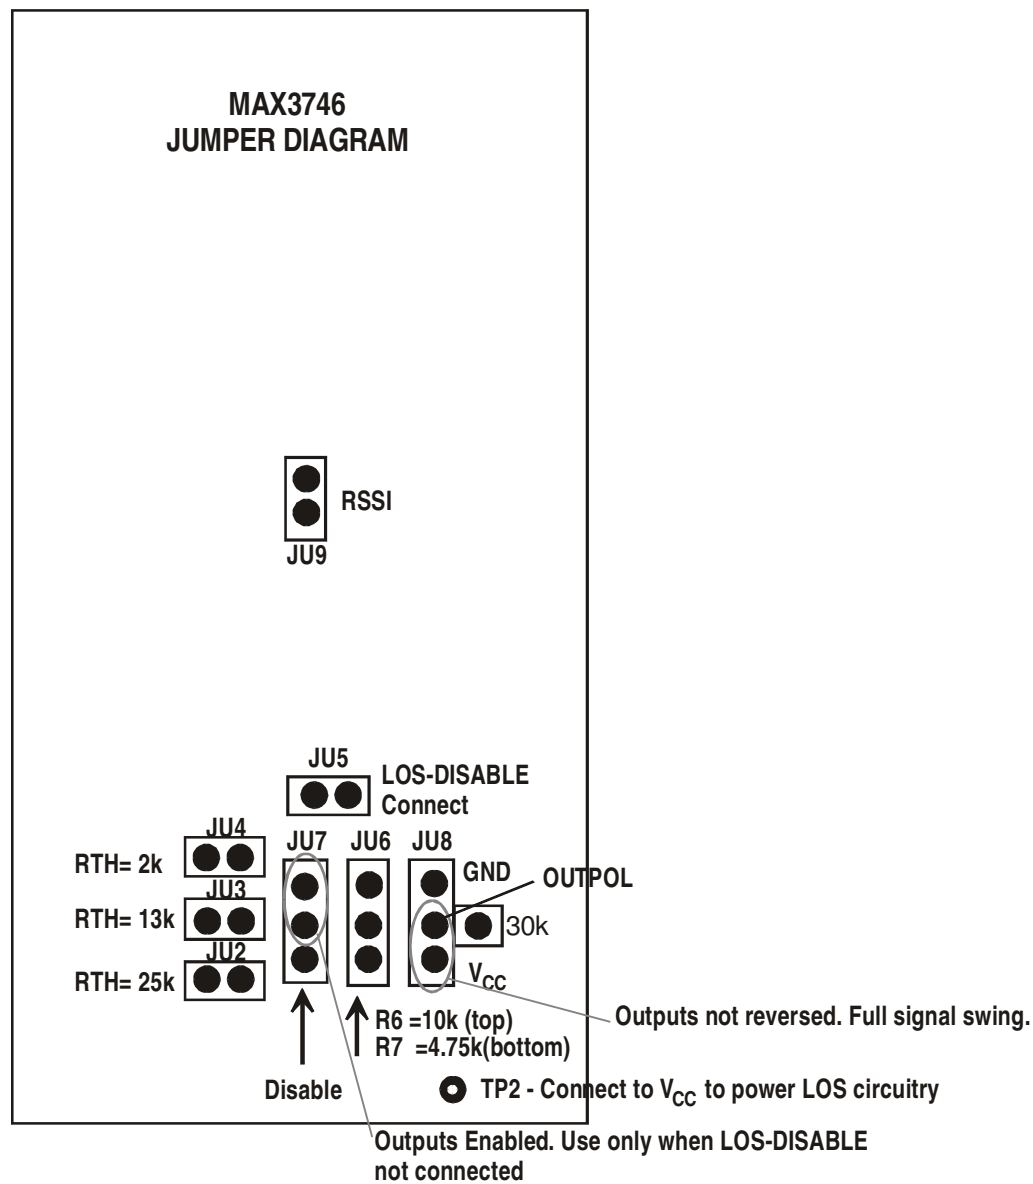

Figure 2. Jumper Diagram.
- 4) Shunt JU8 to V_{CC} so that there is no inversion of signal polarity. (OUTPOL, V_{CC}). Figure 2 shows the jumper diagram for the board.